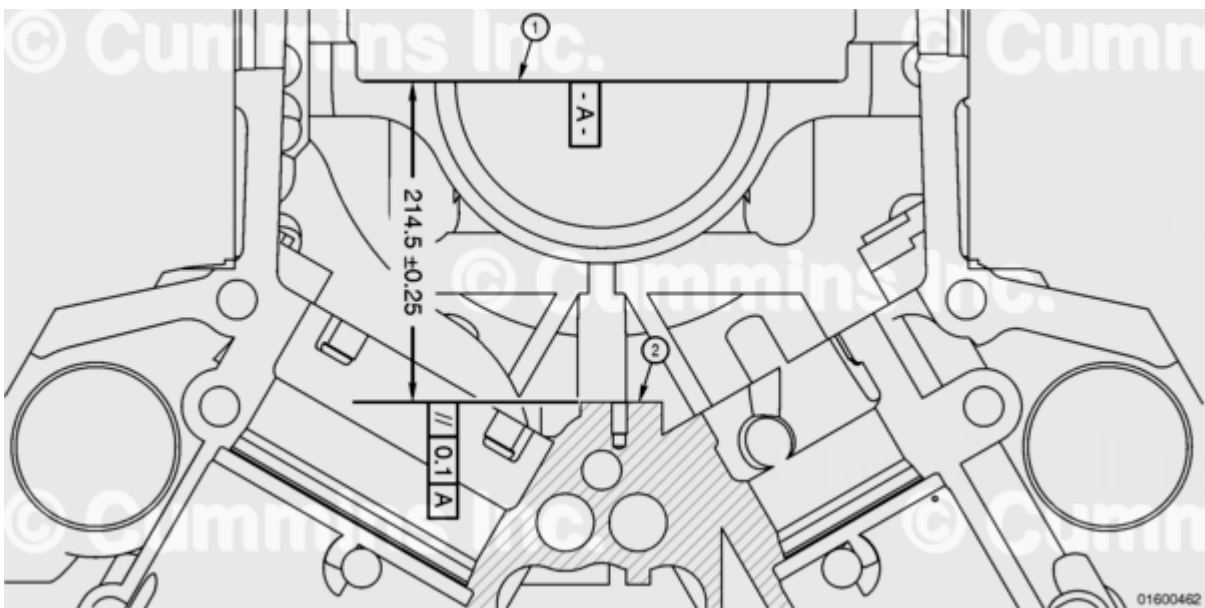

Figure 8: Upper Piston Cooling Nozzle Mounting Pad (1) Datum A, (2) Mounting Pad
- Figure 8 shows an engineering drawing of machining details.